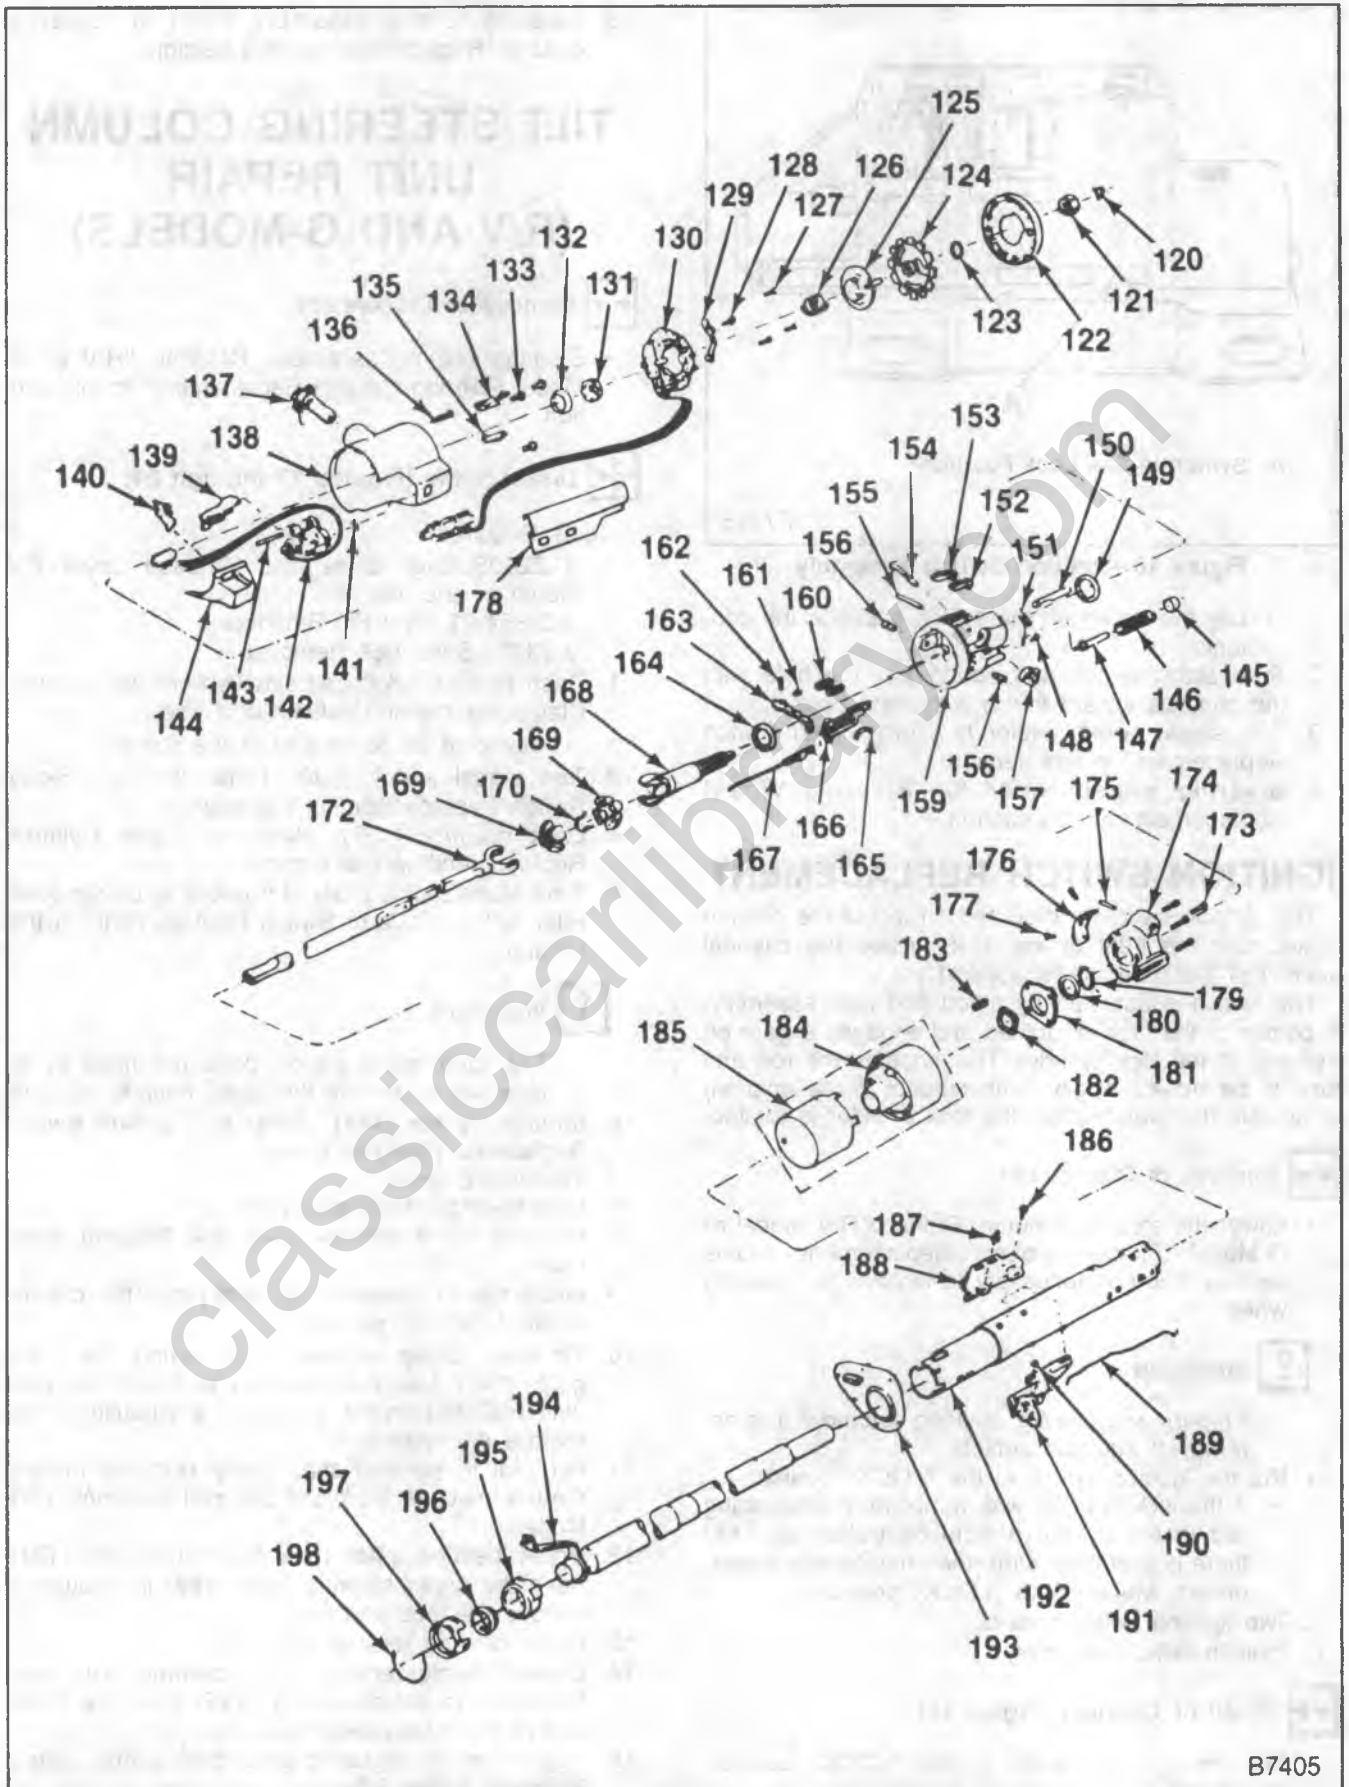

Figure 17—Tilt Steering Column (R/V & G-Models)
2. Tone alarm switch assembly (134) (figure 17).
⊠ Disassemble (Figures 17 through 24)
Assemble (Figures 17 through 27)